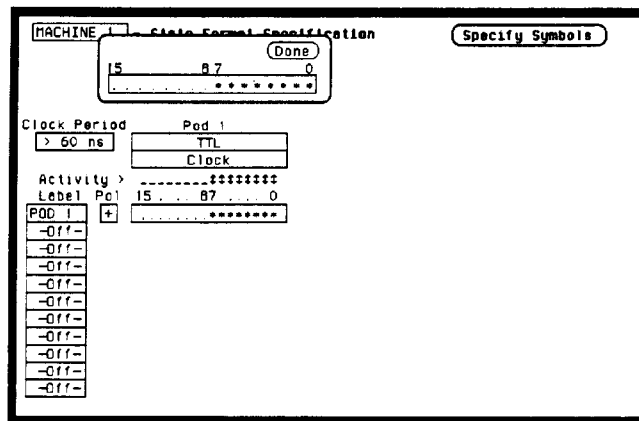

Figure 3-8. Bit Assignment for Data Test 1
- c. Move the cursor to the bit assignment field and turn on the appropriate eight bits to be tested (* = on; . = off) as in figure 3-8.